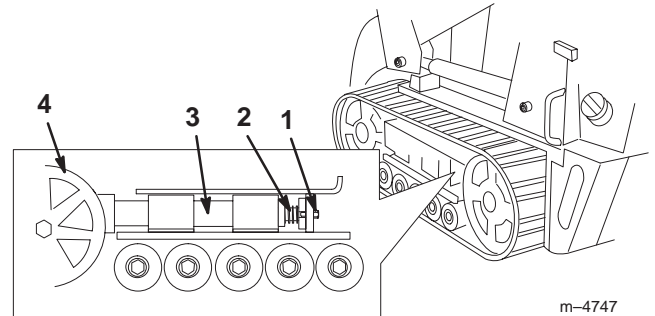

Figure 35
3. Remove the locking bolt and nut (Fig. 35).
5. Align the closest notch in the tension screw to the locking bolt hole and secure the screw with the locking bolt and nut (Fig. 35).
4. Using a 1/2 in. drive socket, release the drive tension by turning the tensioning screw clockwise (Fig. 35 and 36).
4. Using a 1/2 in. drive socket, release the drive tension by turning the tensioning screw clockwise (Fig. 35 and 37).